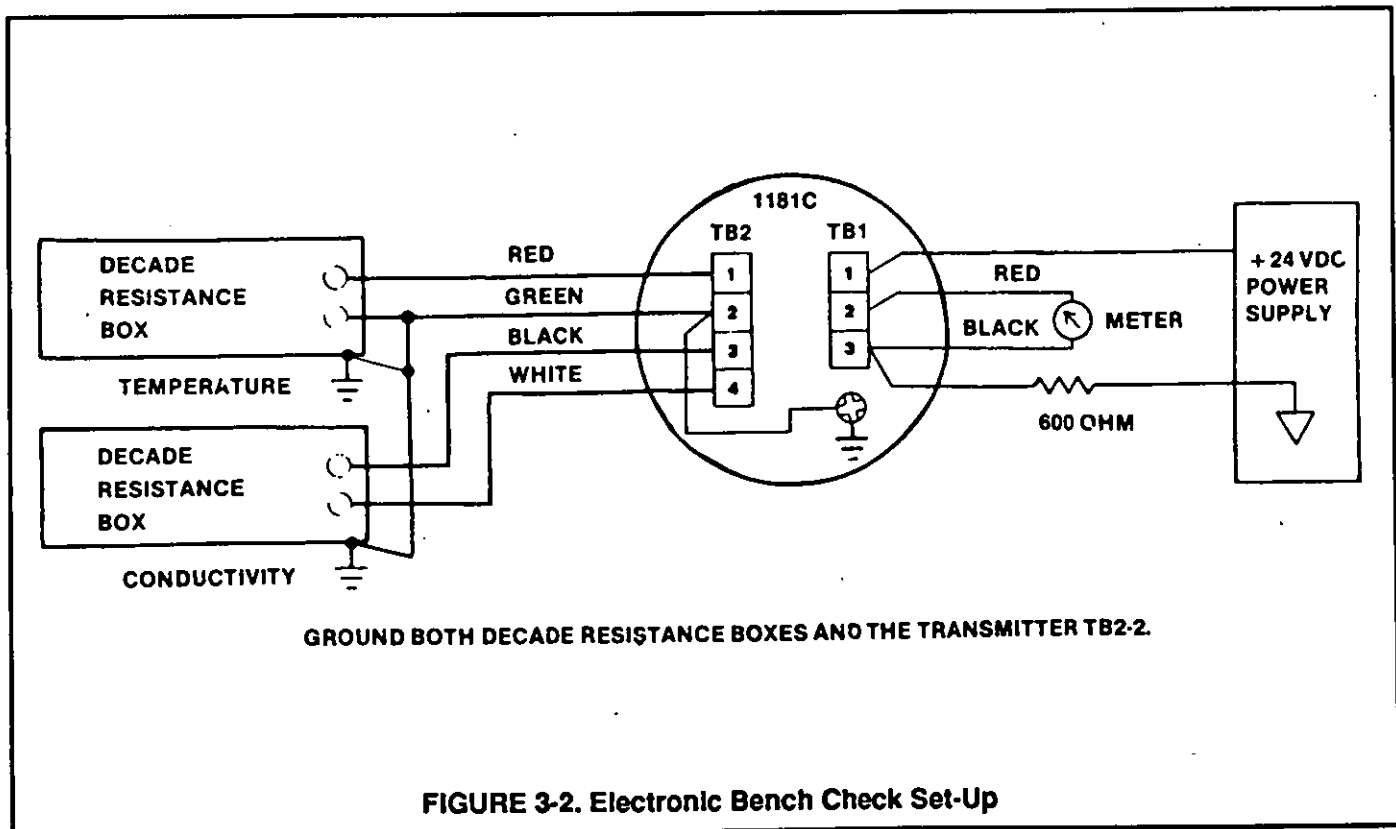

FIGURE 3-2. Electronic Bench Check Set-Up
1. Set up the 1181C Transmitter as shown in Figure 3-2.
Each resistance box and the transmitter must be grounded to TB2-2 as shown in Figure 3-2.